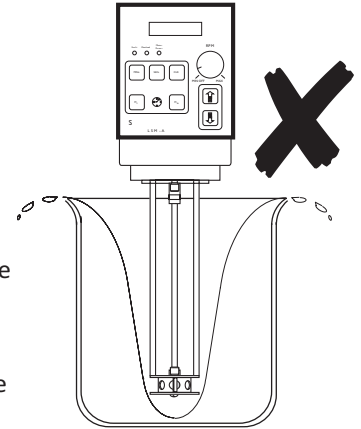
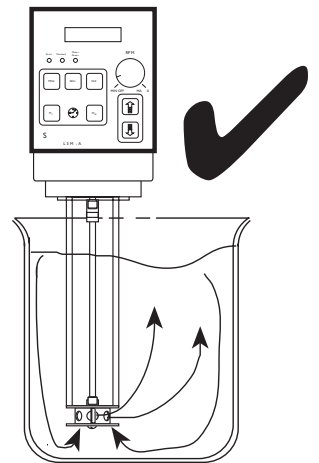

Fig. 9a Mixing Techniques
Fig. 9b Mixing Techniques
WARNING: SPILLAGE MAY OCCUR IF THE MIXING SPEED IS INCREASED TOO QUICKLY (SEE TO FIG. 9A).
5.2 GENERAL GUIDELINES FOR MIXING (Refer to Figs. 9a & 9b)
The position of the head/screen within the vessel can affect the mixing performance of the machine. The recommended initial position is slightly off centre with the head/screen approximately 2.5-5 cms (1"-2") off of the bottom of the vessel (Fig 9b).
A centrally positioned head/screen (Fig. 9a) results in a deeper vortex and may cause aeration, splashing or spillage in less viscous mixes. Moving the head/screen off centre (Fig 9b) produces a smaller vortex enabling the mixer to operate at higher speeds without splashing or spillage.
WARNING: SPILLAGE MAY OCCUR IF THE MIXING SPEED IS INCREASED TOO QUICKLY. (FIG. 9A)